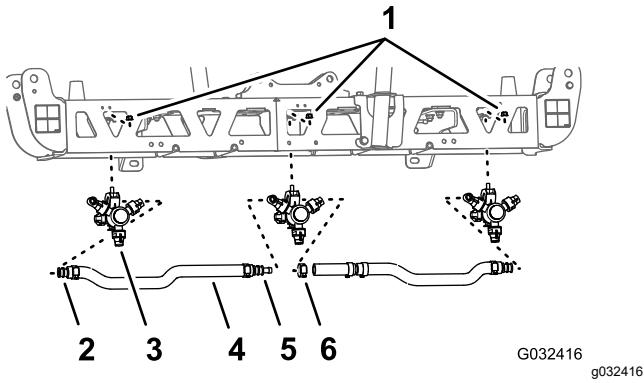
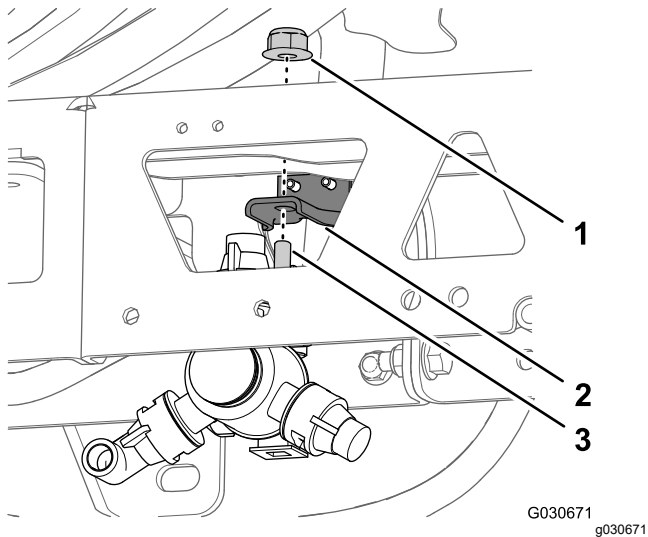

Figure 51
Figure 52
1. At the center-spray section, remove the flanged locknut that secures the sprayer nozzle to the nozzle mount (Figure 51 and Figure 52).
- Remove the nozzle from the center-spray section (Figure 51 and Figure 52).
- Remove the hoses (3/4 inch inside diameter), barbed-hose shanks, clamps and barbed T-fitting from the center-spray section (Figure 51).